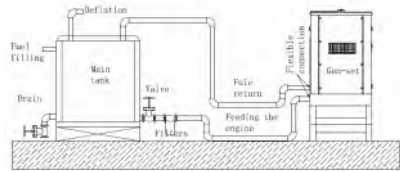

Figure 5.1. Without Intermediate Fuel Tank
5.5. Without intermediate fuel tank (Fig.5.1.)
The simplest arrangement would be supply the engine directly from the bulk storage tank and return the infector spill directly to this tank. A typical arrangement for this is shown in Fig.5.1. The principle limitations of this method are: In order to gravity feed the engine, the outlet from the bulk storage tank must be a minimum of 600 mm above the generator plinth level; The pressure drop of the spill return pipe work must not exceed that detailed in the Engine Data